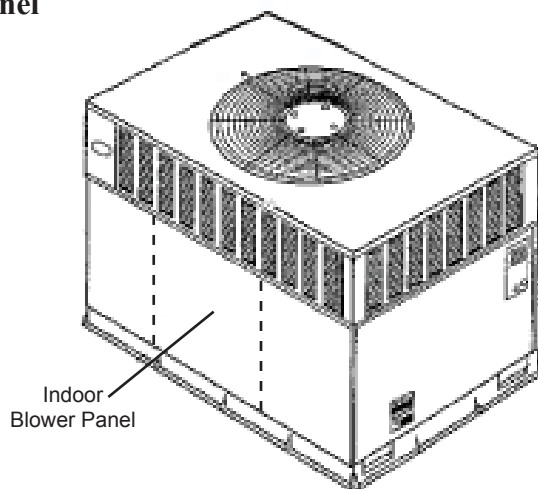

Fig. 10 - Indoor Blower Panel
7. Remove the panel on the HVAC unit covering the indoor blower. See Fig. 10. The (provided) Supply Air Temperature (SAT) sensor, which looks like an eyelet terminal, must be installed in the blower section. Attach the (2) pink wires from the economizer harness (or extension harness) to the SAT.